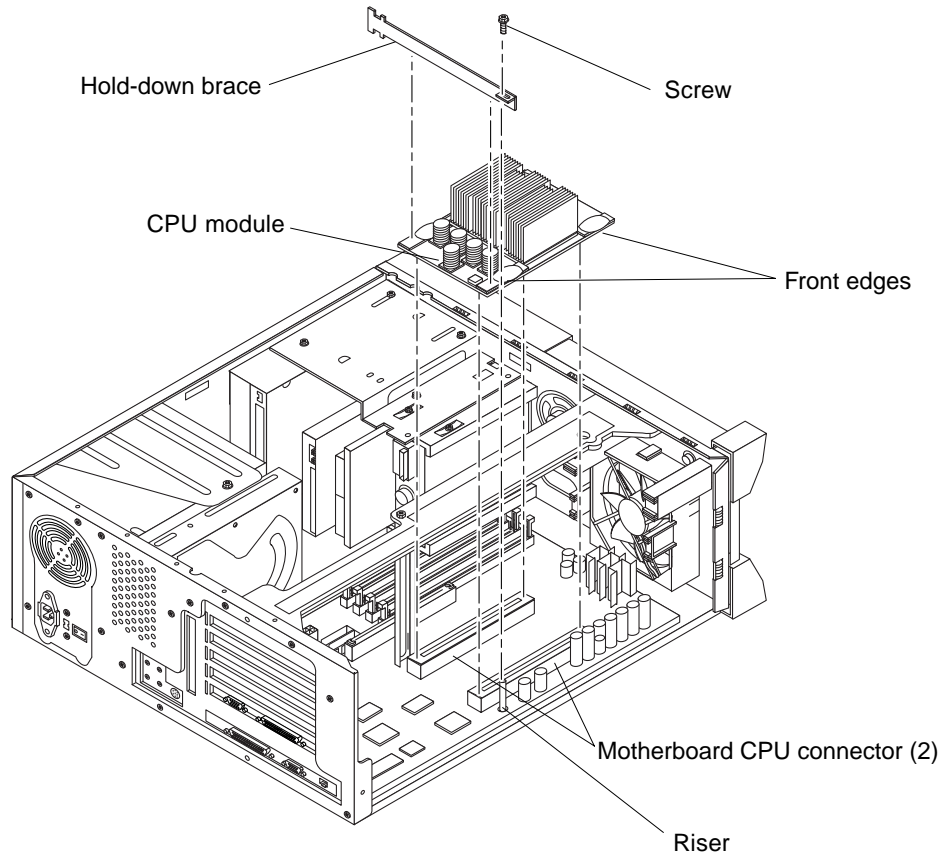

FIGURE 2-7 Removing and Replacing the Ultra 10 CPU Module
2. Remove the CPU module as follows (FIGURE 2-7):
1. Replace the CPU module as follows (FIGURE 2-7):